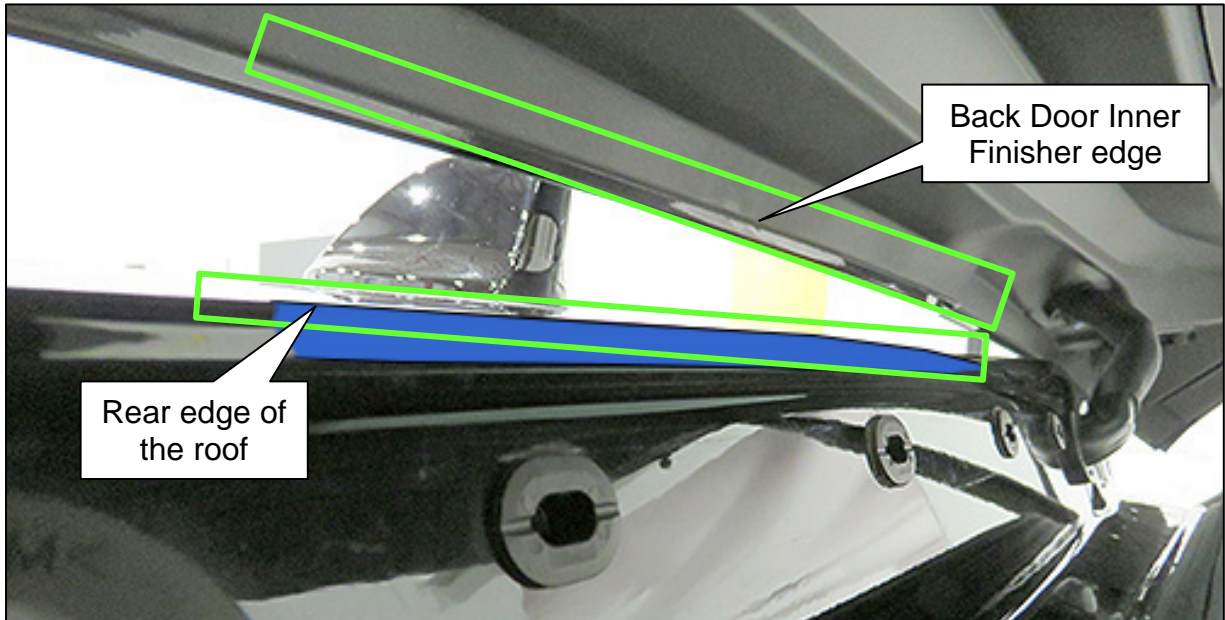

Figure 10
16. Open the Back Door and examine the edge of the Back Door Inner Finisher and the rear edge of the roof (where shown in Figure 10) for evidence of rubbing, where the plastic feeler gauge could not pass through.